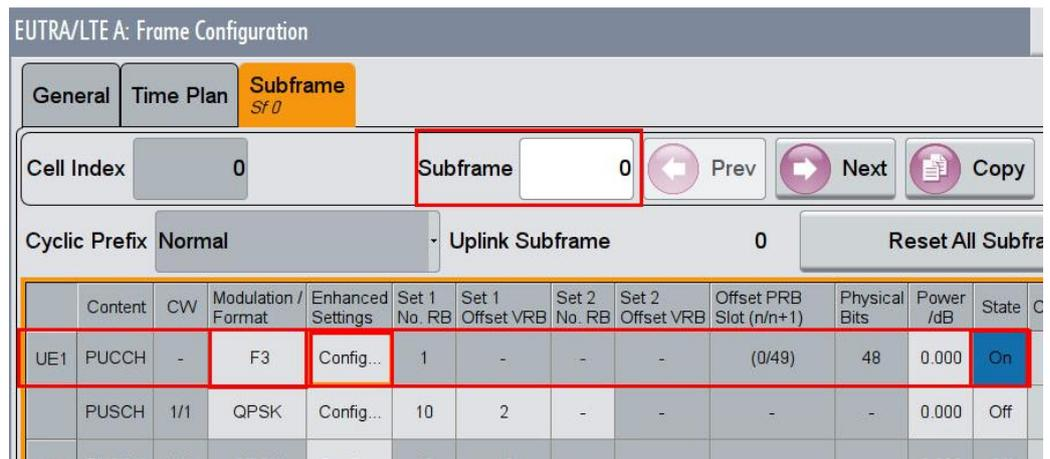

Fig. 3-135: PUCCH with format F3 in subframe 0
6. Set for the PUCCH the Format to **F3** and the state **On** (Fig. 3-135)